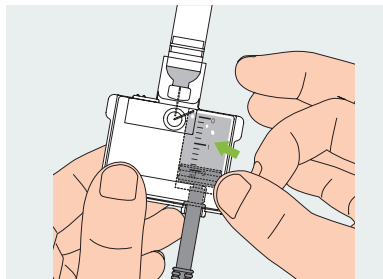

Figure 62
- 4 Tap the side of the reservoir to encourage any air bubbles to rise to the top of the reservoir (Figure 62).